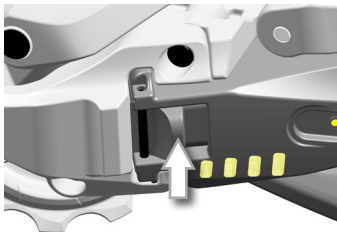
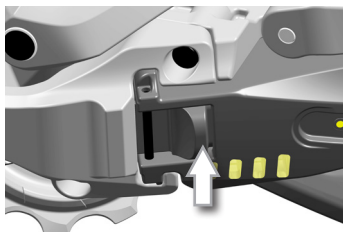

Fig.5
Fig.6
- Lock the battery in place by sliding the lock button until it comes into contact with the pivot (Fig. 5 / Fig. 6).